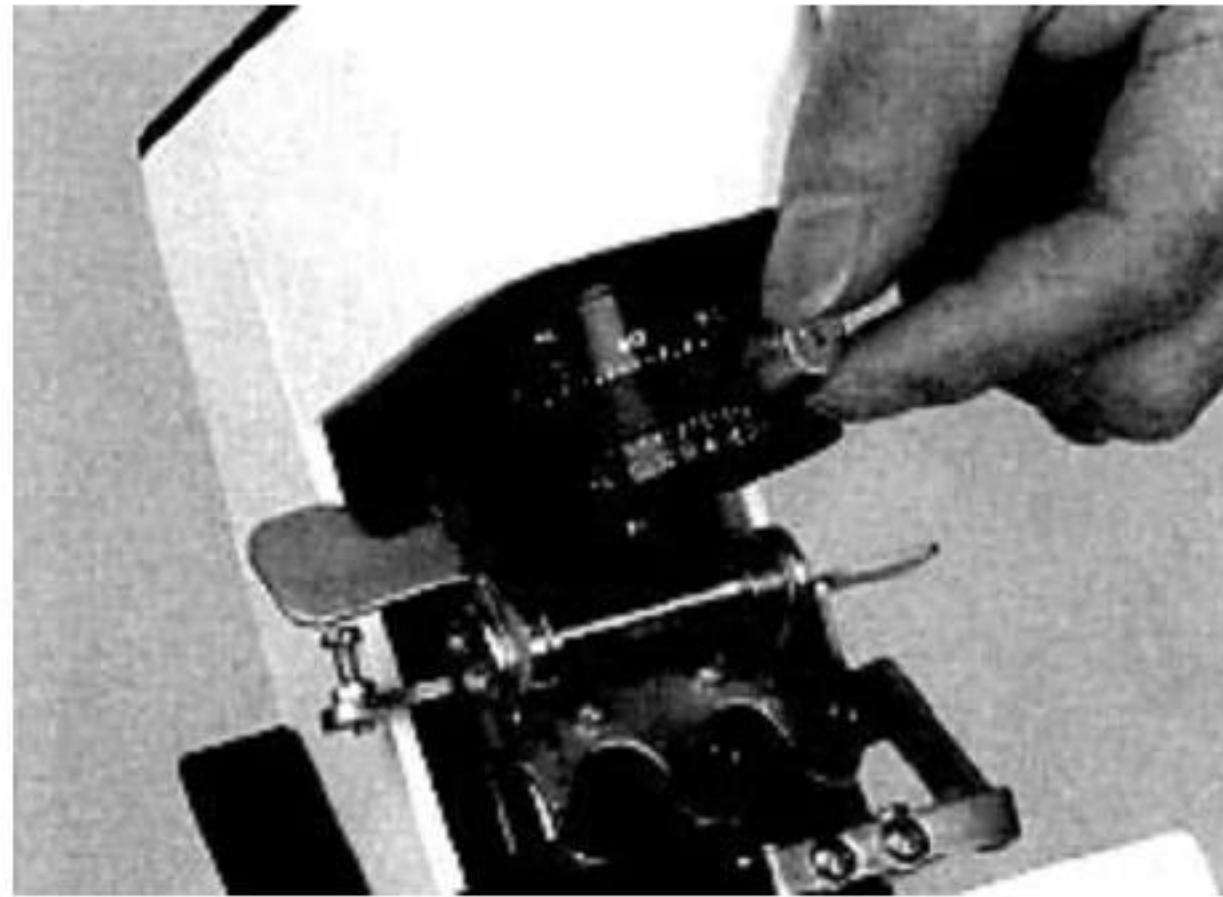

Fig. 6
*3.4 Prism compensation device (Fig. 6)